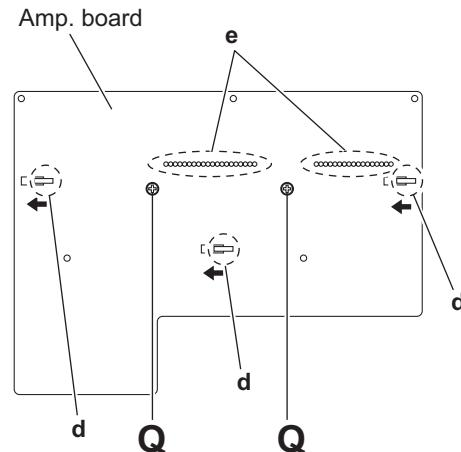

Fig.14
- (2) From the bottom side of the amp. board, remove the two screws **Q** attaching the heat sink. (See Fig.14)